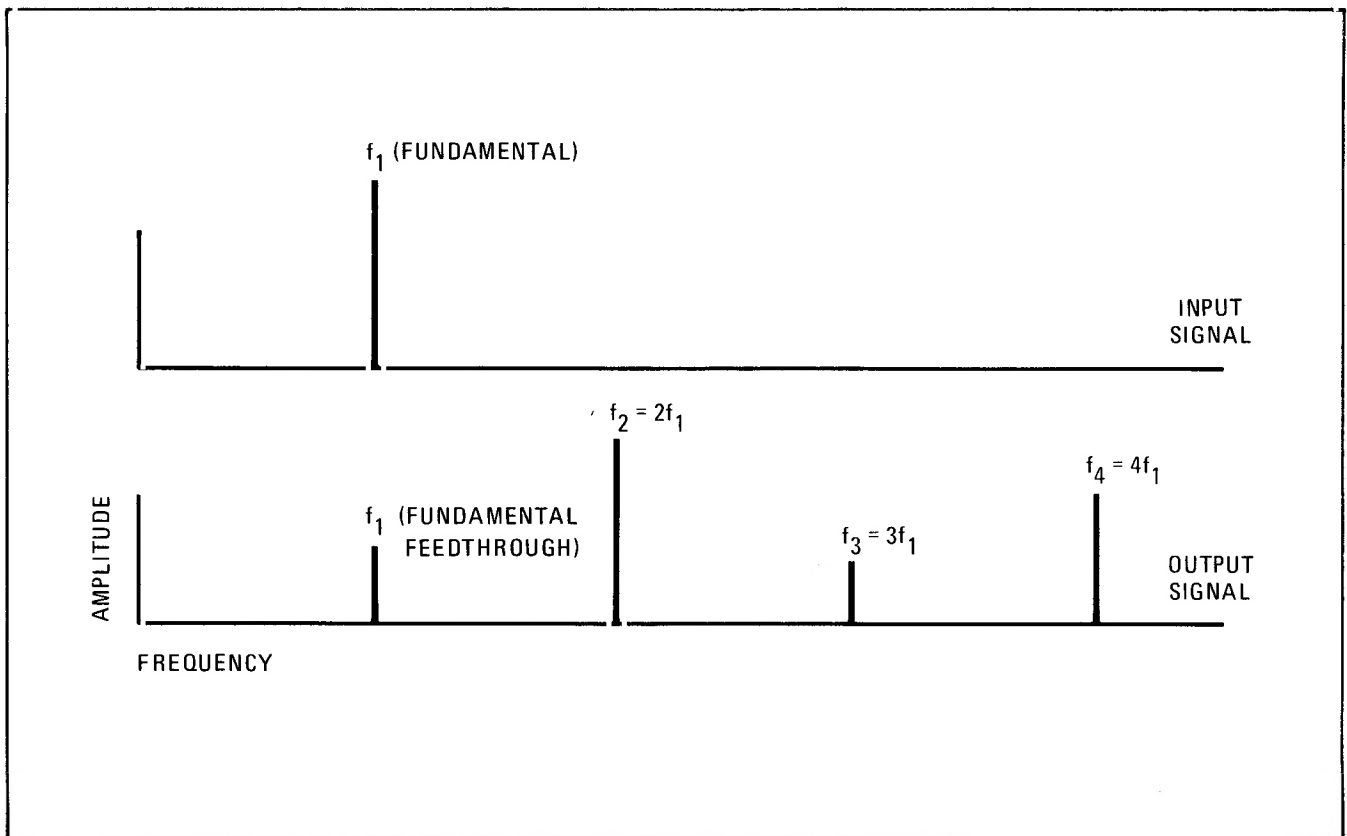

Figure 2. Signals Associated With Doubler
8. The AM distortion, frequency response, and spurious signals in the doubler's output signal all depend upon the quality of the input signal. For example if the input signal's second harmonic is high, the output signal's fundamental feedthrough (see Figure 2) will be high. Therefore, to fully realize the doubler's specifications, the signal generator used with the doubler must have specifications for AM distortion, harmonic level, and output flatness that are as good as, or better than, the Model 8640A/B.
25. Fundamental feedthrough (see Figure 2) can be reduced if the second harmonic is removed from the doubler's input signal. Use a lowpass filter (between the doubler and the signal source) that attenuates the fundamental signal's second harmonic.